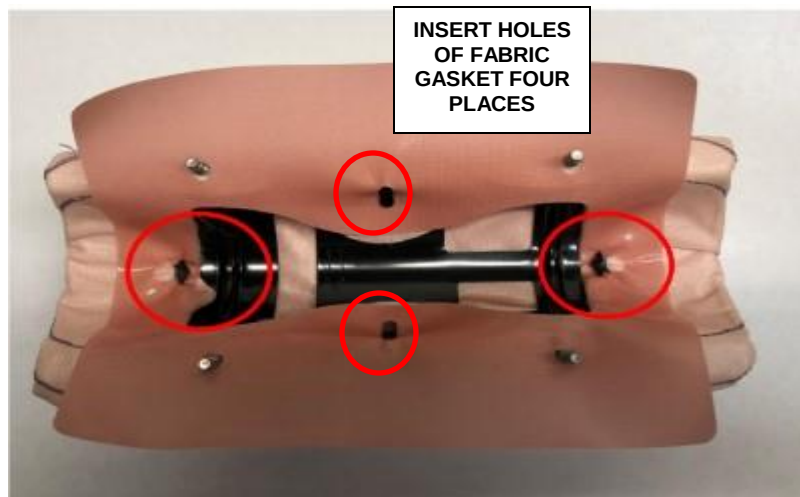

Figure 173 - Fabric Gasket
28. Grasp the lower edge of the PAB door and pull the door and PAB unit rearward far enough to access the two instrument panel wire harness connections to the PAB inflators at each side of the PAB housing (Figure 173).
29. Disconnect the two panel wire electrical connectors from the PAB inflators. Firmly grasp and pull the lock straight out from the connector insulator, then pull the insulators straight out from the inflator to disconnect them from the connector receptacles (Figure 173).